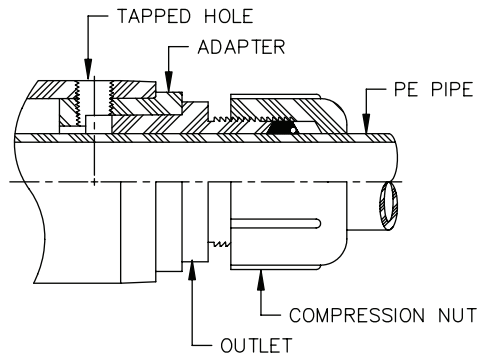

Figure 3
2. Loosen compression nut until seal ring is no longer compressed. Then insert pipe through fitting (Figure 3).